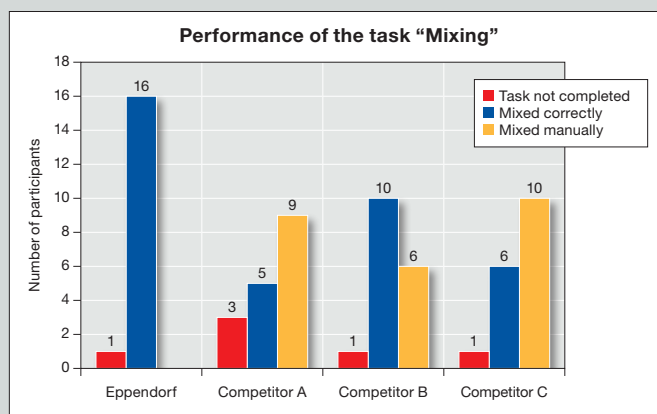

Fig. 3: 17 participants used each pipette for the task "Mixing"
**Fig. 3:** Comparison of overnight cultures following heat shock transformation (A) and electroporation (B). Plate A represents a two-fold higher amount of plasmid DNA.